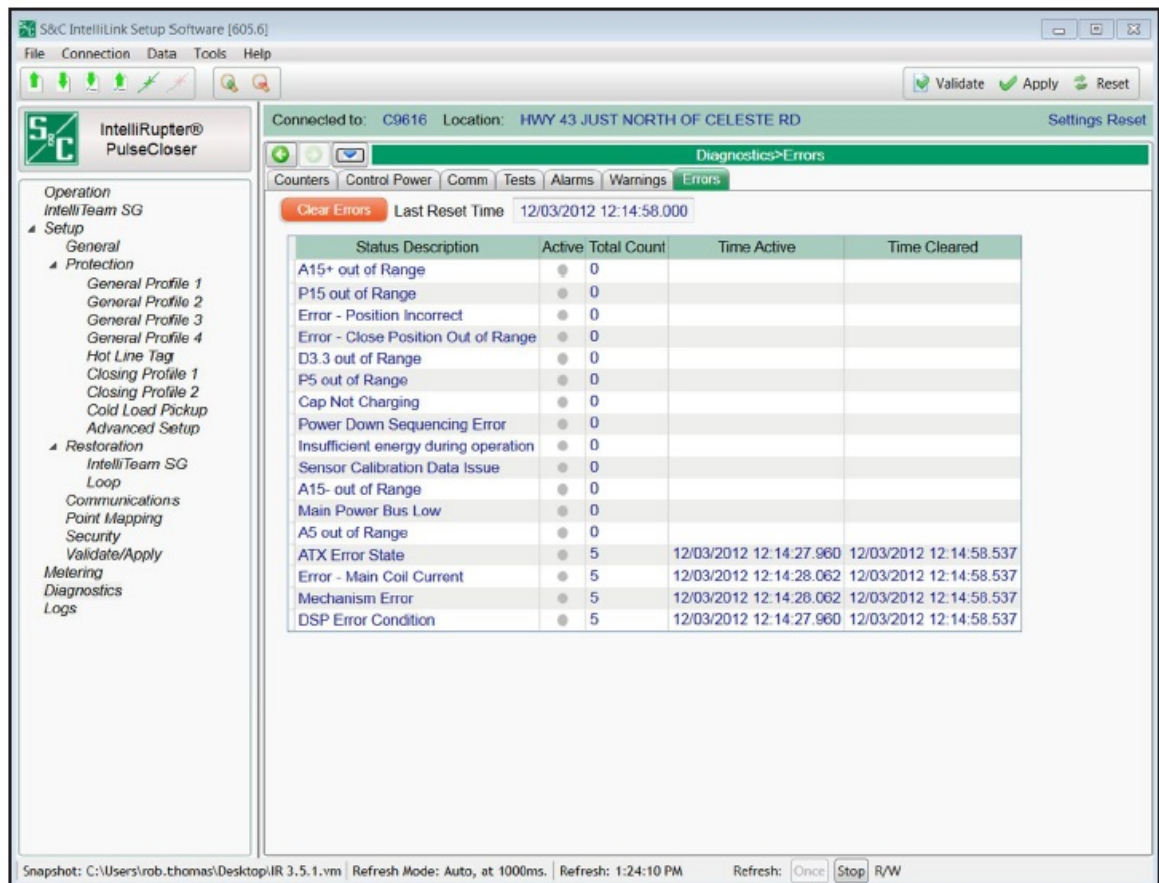

Figure 5. The *Diagnosics>Errors* screen.
- **NOTICE** Commands to open or close the IntelliRupter fault interrupter will result in errors because the docking station does not provide operation feedback. To clear the errors, navigate to the Diagnostics>Errors screen and click on the Clear Errors button. See Figure 5.